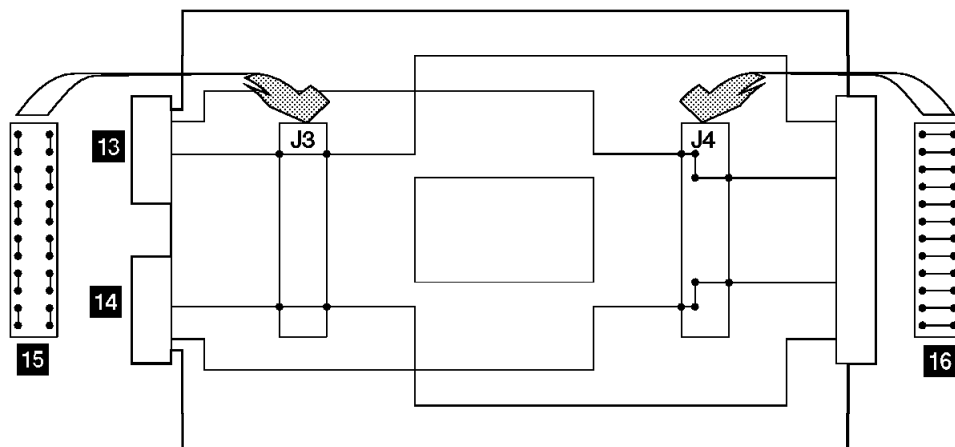
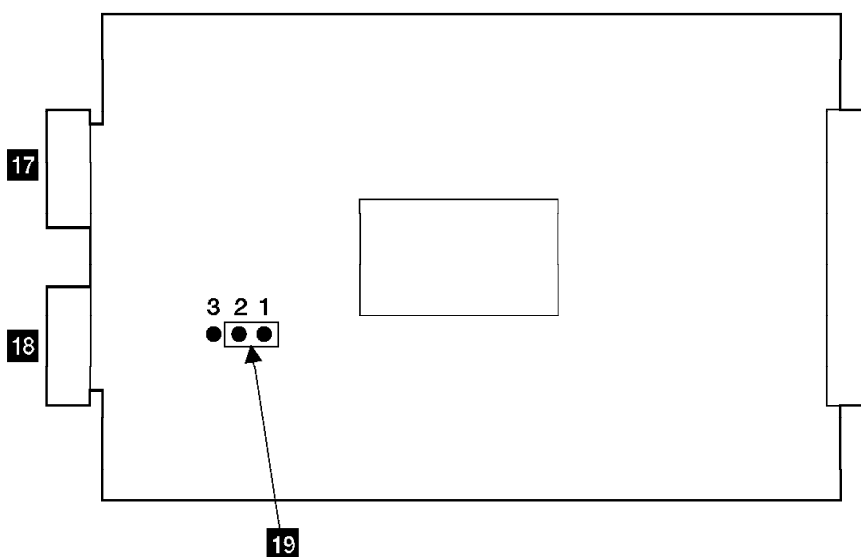

Figure 33. SSA DASD Model 020 Drawer Bypass Card Jumper Settings, Early Type (t007082m)
Figure 34. SSA DASD Model 020 Drawer Bypass Card Jumper Settings, Late Type (t007480m)
6. Determine if you are checking the jumper settings on an early type card, see Figure 33 or a late type card, see Figure 34 on page 56.
9. Unpack the new bypass card and inspect the component side of the card. Verify that the card is a late type of bypass card. Late type cards have one three pin jumper block, see Figure 34. Go to step 10.
Note: Replacement bypass cards must always be the late type shown in Figure 34.